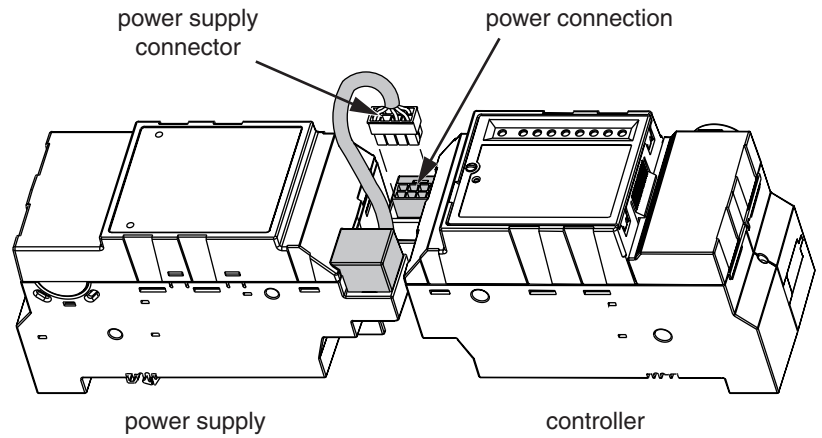

Figure 3: Connecting to the controller
Follow these instructions to connect the power supply to the controller. Figure 3 illustrates the process.
2. Push the power supply connector plug into the power connection on the controller (see Figure 3).